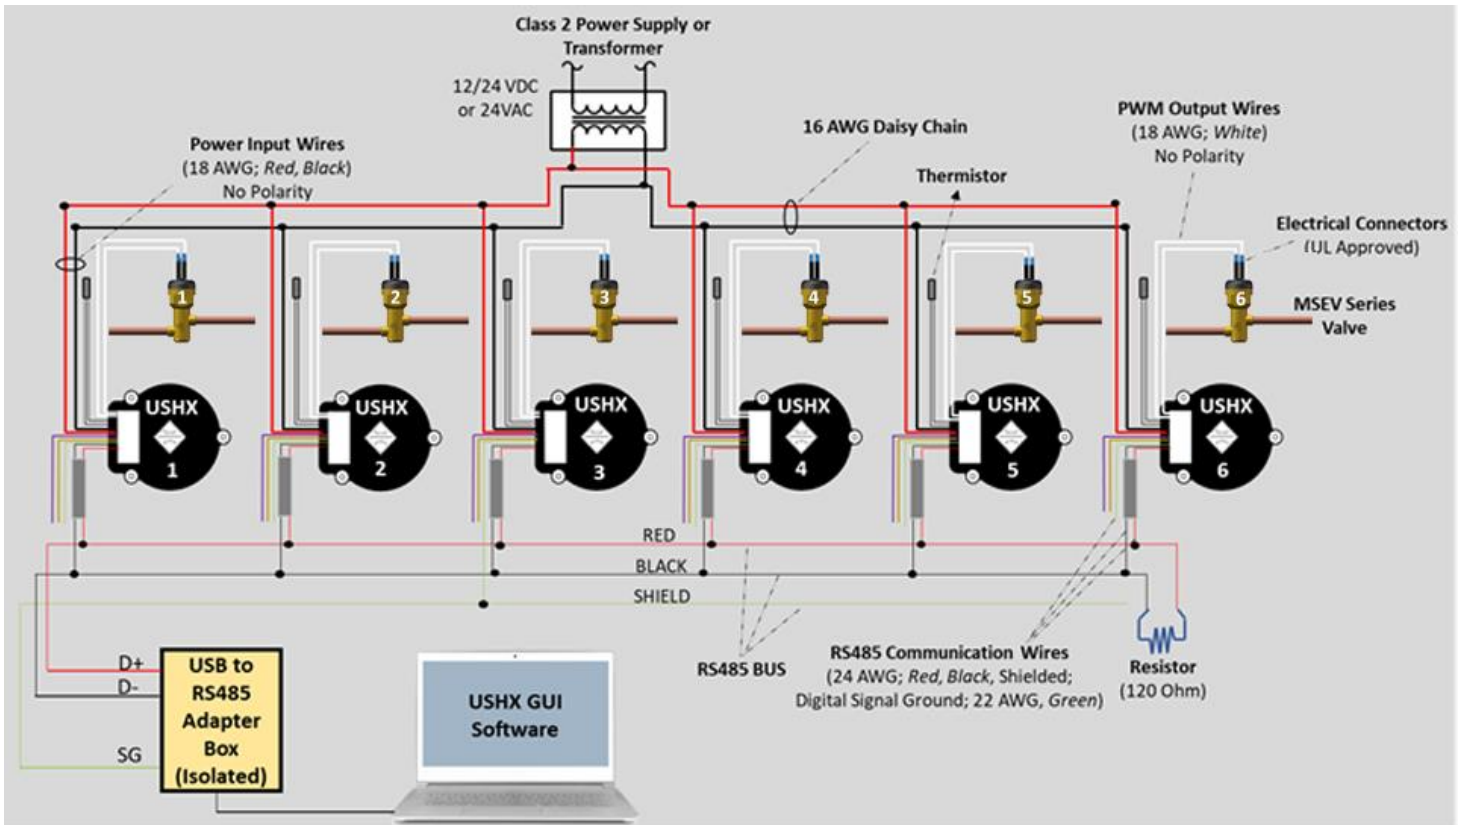

Figure 3-5 Multiple USHCs and MSEV series valves networking diagram
The wiring schemes of the ‘Multiple USHCs and MSEV Series Valves’ setup and ‘Multiple USHSS’ setup are the same except that the PWM output wires of each USHS for the ‘Multiple USHSS’ setup process should be disconnected, terminated with wire nuts, and wrapped with electrical tape so that they do not form short circuits with each other or any other wires or metal surfaces. As for the ‘Multiple USHCs with Multiple MSEV Series Valves’ setup process, the PWM output wires should be connected to the valves as shown in **Figure 3-5**.
- Form a daisy chain with the power lines by connecting the USHX power input cables (18 AWG red/black wires) that are closest to the transformer on either side (USHX 3 and 4), as shown in **Figure 3-5**. Use 16 AWG stranded copper wire for extensions.
- Run the power input wires from USHX 3 to USHX 2 and then from USHX 2 to USHX 1 as shown in **Figure 3-5**.
- Create a daisy chain for the RS485 BUS as shown in **Figure 3-5**. Connect the gray RS485 communication wire of USHX 1 to USHX 2. Use similar communication cables when extensions are required. Do not connect the data ground wire between USHX 1 and 2. It should remain unconnected and protected with wire nuts and wrapped with electrical tape.
- For each transformer, only one USHX data ground wire should be connected to the RS485 adapter signal ground input. As shown above in **Figure 3-5**, only the data signal ground wire (green wire) of USHX 3 is connected to the RS485 adapter signal ground input.